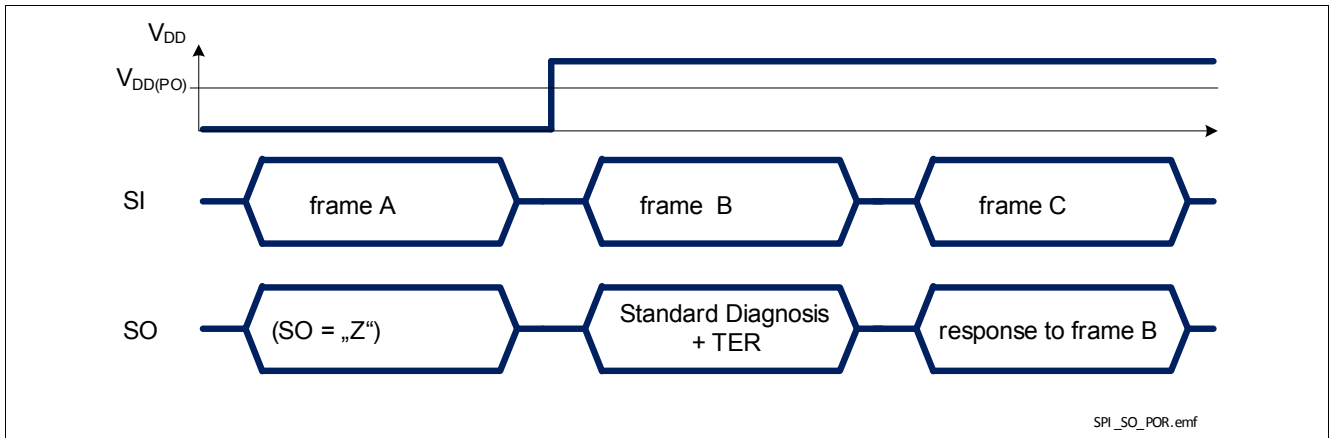

Figure 33 BTS54040-LBA response after coming out of Power-On reset at  $V_{DD}$
- when BTS54040-LBA logic supply comes out of Power-On reset condition, as shown in **Figure 33**